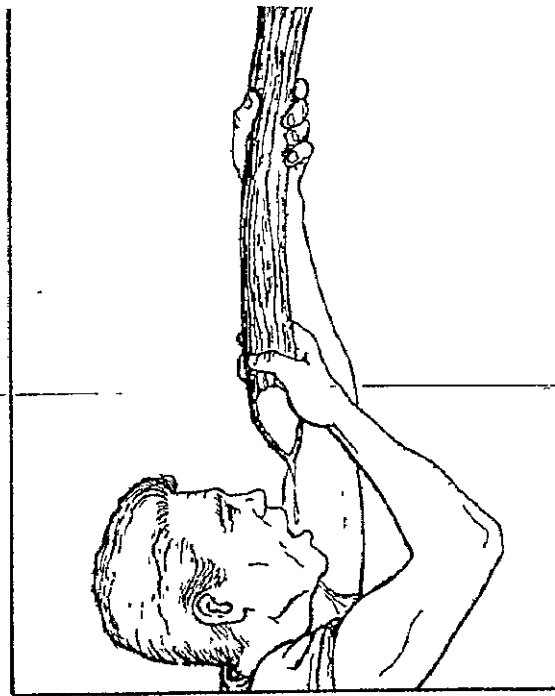
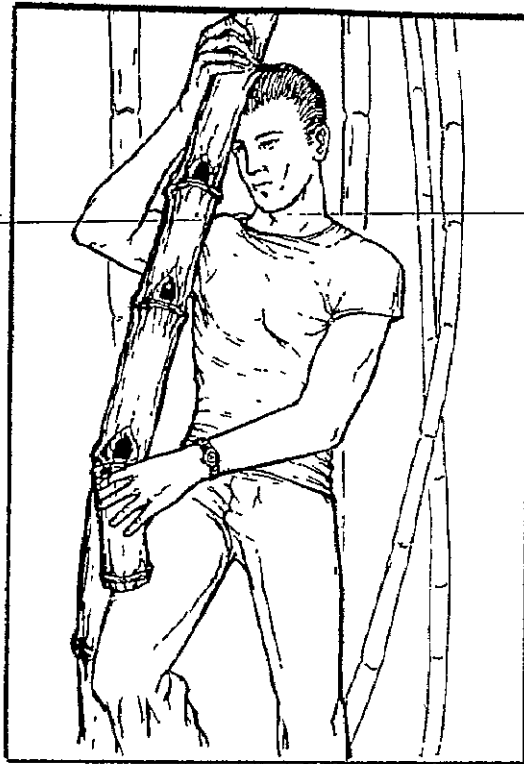

Figure 93. Extracting water from vines.
Figure 94. Bamboo joints contain water.
b. Many vines have water in them. The vine should be cut through. When a nick is cut in the vine about 1 meter above the original cut a potable liquid will drip out (see figure 93). Do not apply vine to lips. Avoid any vine, plant, or tree with milky juice for many are poisonous. Water can be found at the base of the leaves of palms; or in sections of dead bamboo (see figure 94). A section of bamboo placed against a tree will collect water during rain. Moisture collects under leaves in the dry season. Rub these with a cloth or other absorbent material, squeeze it into a container. At the seashore, brackish but drinkable water can be procured by digging a hole 3 meters above the high-tide line.